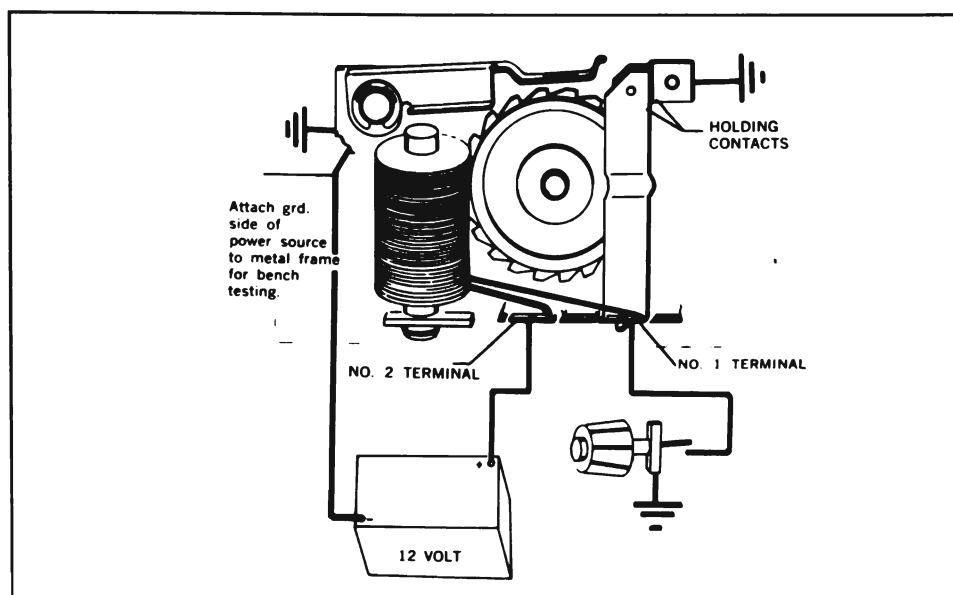

Figure 10-104—Washer Pump Wiring Diagram
Depressing the dash switch washer button closes the washer pump relay circuit to ground. (Refer to Figure 10-104). NOTE: If wiper was "off" the wiper switch is mechanically turned to the "on" position by the washer button.
1. Remove washer pump cover and connect 12 volt power supply to washer pump as shown in Figure 10-104. Connect jumper wire from terminal No. 1 to ground. Turn ratchet pawl to the position shown in Figure 10-104. Ratchet pawl should be pulled toward relay pole and engage ratchet teeth. Failure to do as described above indicates an open relay coil.